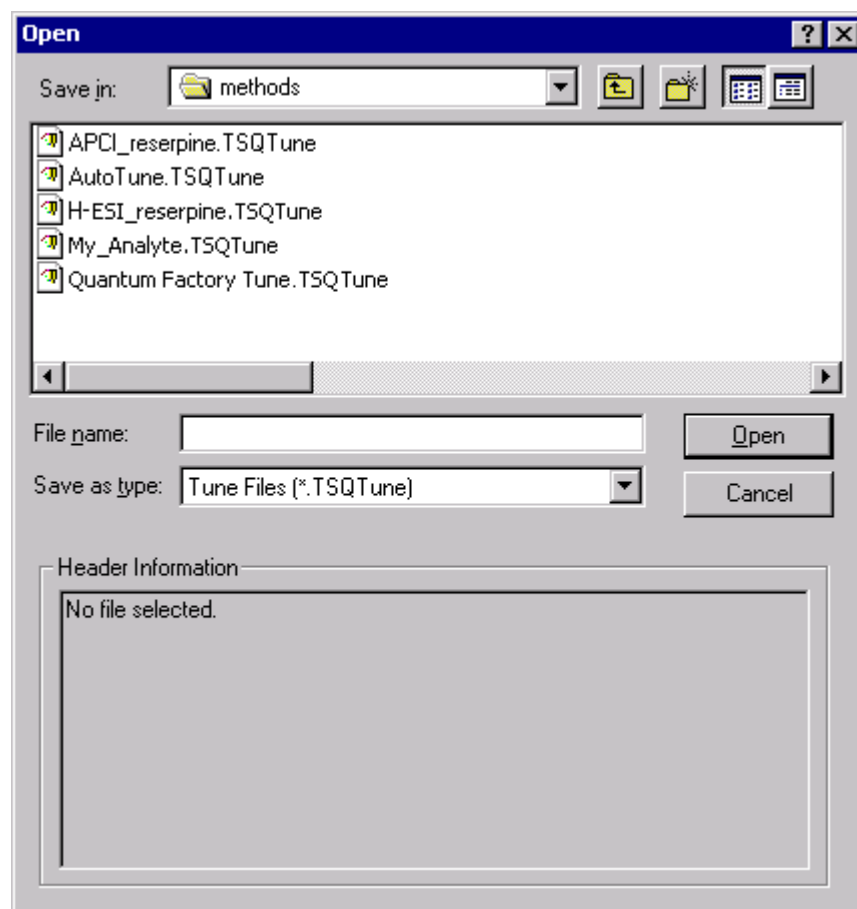

Figure 8-6. Open Tune Method dialog box
- a. On the File / Display toolbar, click on the Open File button to display the Open dialog box. See Figure 8-6.